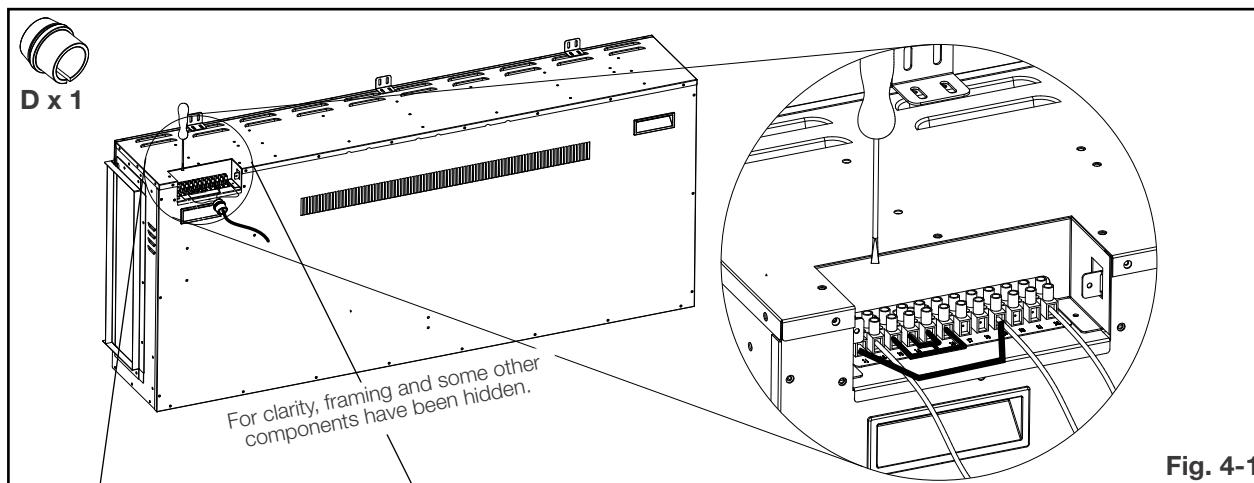

Fig. 4-1
- Insert the wires from your home through the junction box cover plate with the strain relief (supplied) and locate the wires to the specified terminal block location based on desired voltage selection (**Fig. 4-1 or 4-3**).